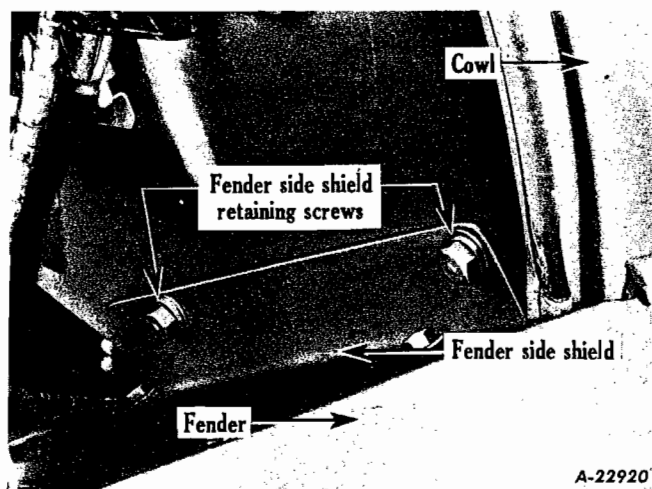

Fig. 63
10. Remove two fender side shield to cowl retaining screws on both sides (Fig. 63).